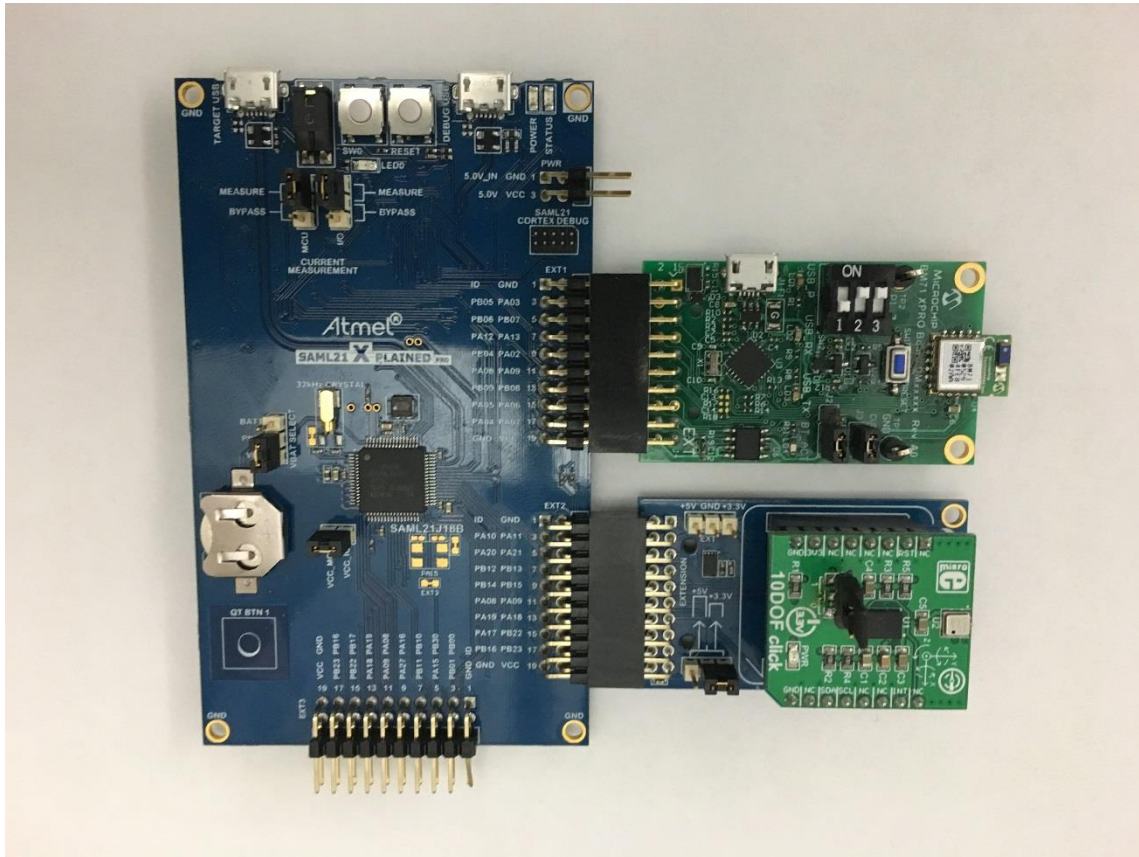

Figure 1: SAML21 Xplained Pro with BM71-XPro and MikroElektronika BNO055 Click Board
1. Plug-in the BM71-XPro board into EXT1 of SAML21 Xplained Pro board as shown in Figure 1.
3. Plug-in the Click board adapter into the EXT2 of SAML21 Xplained Pro as shown in Figure 1.
4. Plug-in the Click board into the Click board adapter as shown in Figure 1.